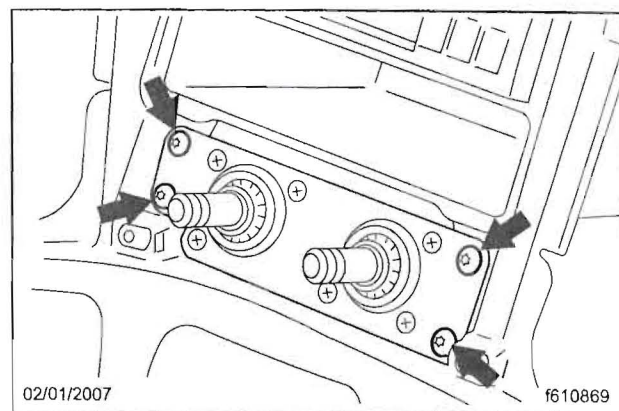

Fig. 2, MV-3 Control Valve Mounting
4. Remove and save the four mounting screws and washers from the corners of the cover plate. See Fig. 2.